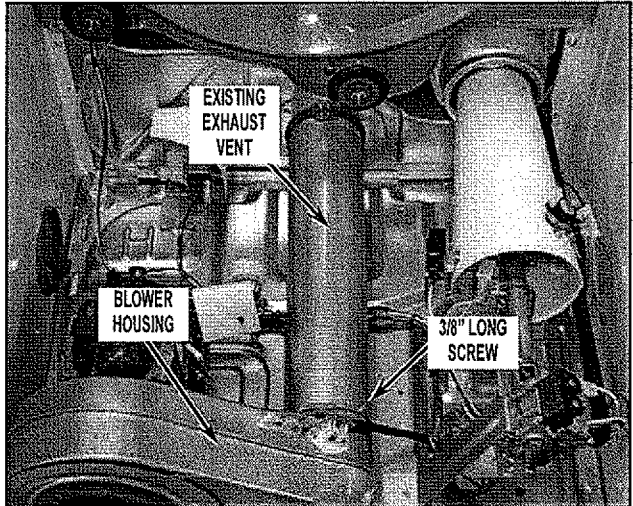

FIGURE 18 (GAS DRYER SHOWN)
20. Remove the existing exhaust vent by removing one (1) 3/8" long screw that secures the vent to the blower housing outlet. See *Figure 18*.